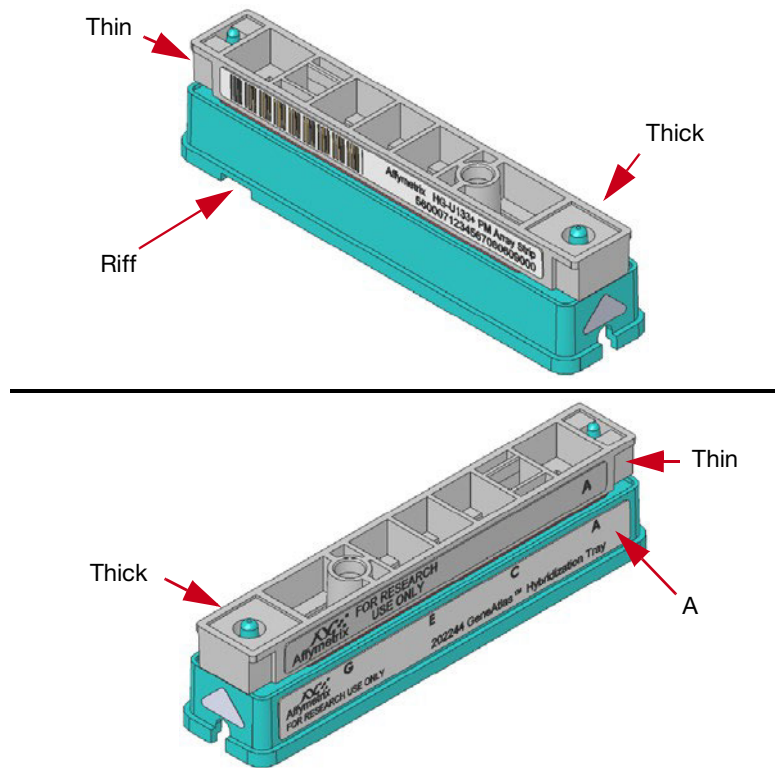

Figure 6 Proper orientation of the array strip in the hybridization tray.
- b. Remove the array strip from its foil pouch and carefully place it into the hybridization tray (Figure 6) making sure that there are no bubbles beneath the array strip.